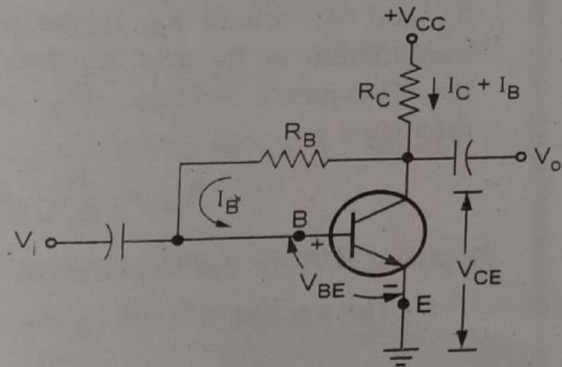

Fig. Q.57.1 D.C. bias with voltage feedback
Ans. : • The Fig. Q.57.1 shows the dc bias with voltage feedback. It is also called the collector to base bias circuit.
• Let us consider the base circuit of Fig. Q.57.1. Applying to the base circuit we get,